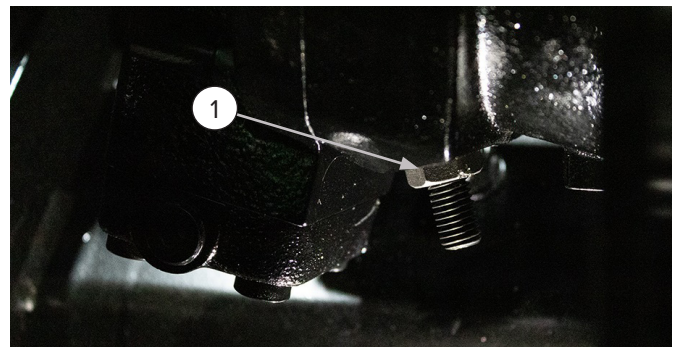

Figure 14
3. Loosen the jam nut, and turn the allen bolt to adjust the minimum displacement. Tighten the jam nut when complete. See **Figure 14**, Item 1.